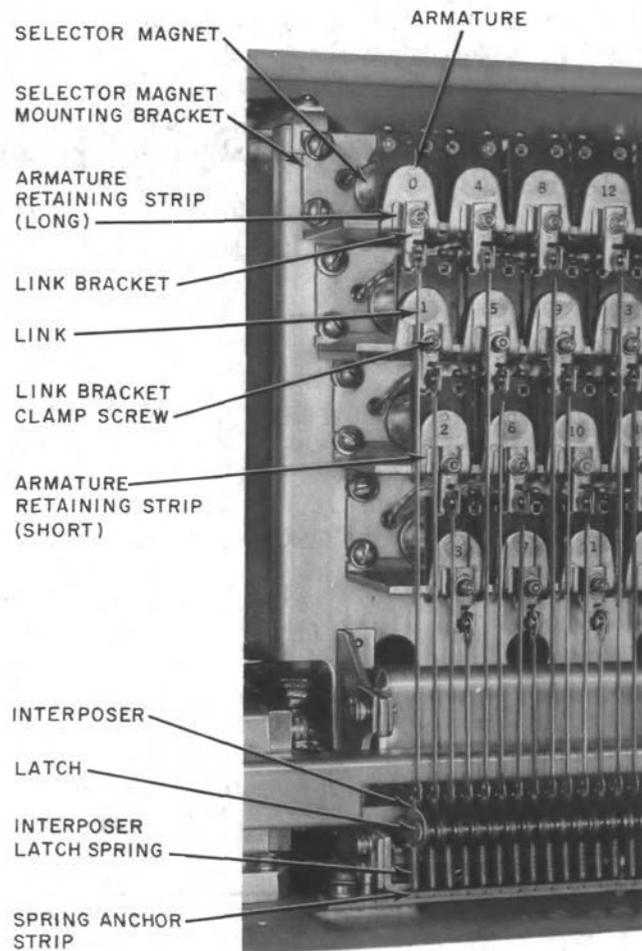

Fig. 58—Selector and Associated Parts
3.64 Selector Link: To replace a selector link (Fig. 58), proceed as follows.
3.65 Selector Magnet, Armature, and Armature Retaining Strip: To replace a selector magnet, armature, and/or armature retaining strip (Fig. 58), proceed as follows.
- (a) Proceed in accordance with (6) except that it will not be necessary to unsolder the magnet leads or remove the magnet.
3.66 Interposer Latch Spring: To replace an interposer latch spring (Fig. 58), proceed as follows.